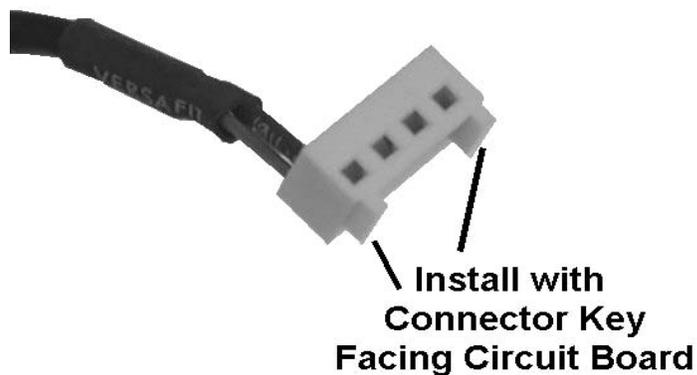

Figure 3-14: The Customer Display Interface Cable
2. The pre-installed cable projects from a rectangular hole in the rear of the chassis. Remove the tape from the cable and orient the connector as shown in Figure 3-14 when you attach it to the display board connector.